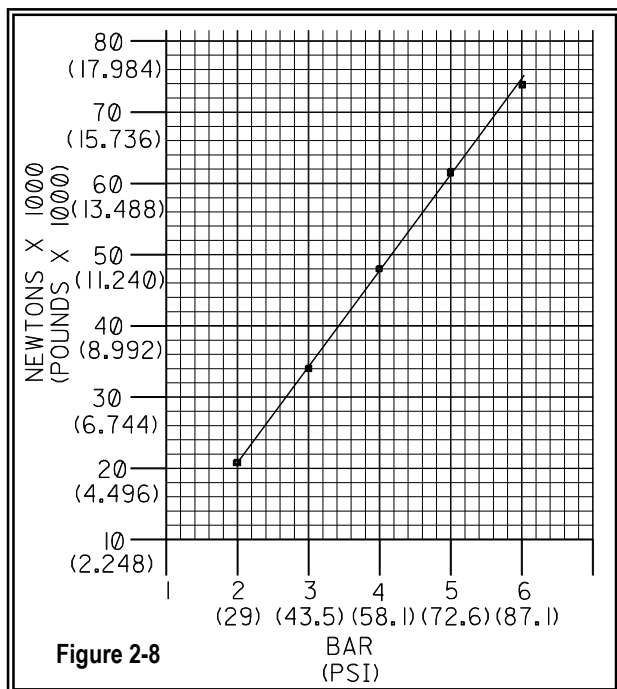

Figure 2-8
2. Turn the knob clockwise (CW) to increase the pressure, or counterclockwise (CCW) to decrease the pressure. See Figure 2-8 for approximating the pressure required for the desired ram force.